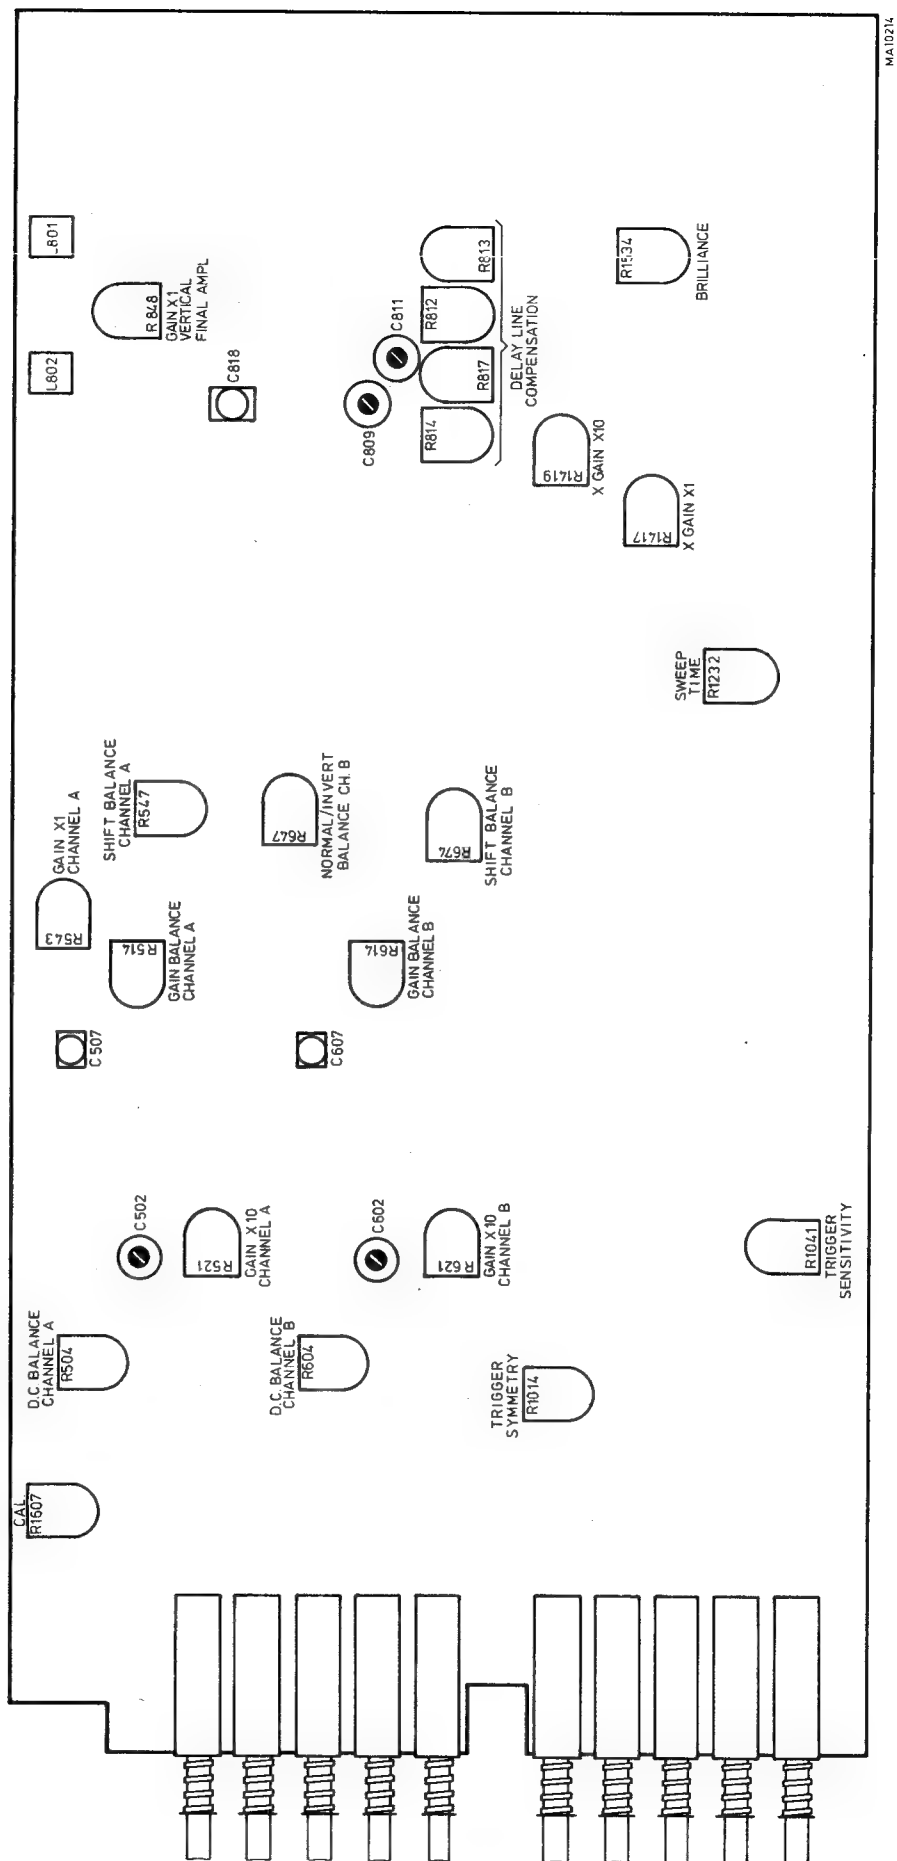

Fig. 3.3. Adjusting elements amplifier board
- Depress input coupling switch S13 (0).
- Check with a multimeter that the DC output voltage of the trigger amplifier (collector of V1014) does not change if SLOPE push-button S3 is switched between + and -. If necessary readjust potentiometer R1014 (Fig. 3.3.).
- Release input coupling switch S12 to (DC).
- Release input coupling switch S13 (0).
- Find the lowest possible input signal at which it is still possible to obtain a triggered trace with the aid of LEVEL potentiometer R5 and potentiometer R1041 (Fig. 3.3.).
- Check that the voltage on the CAL output socket is $1,2\text{ V} \pm 1\%$. If necessary readjust potentiometer R1607 (Fig. 3.3.).